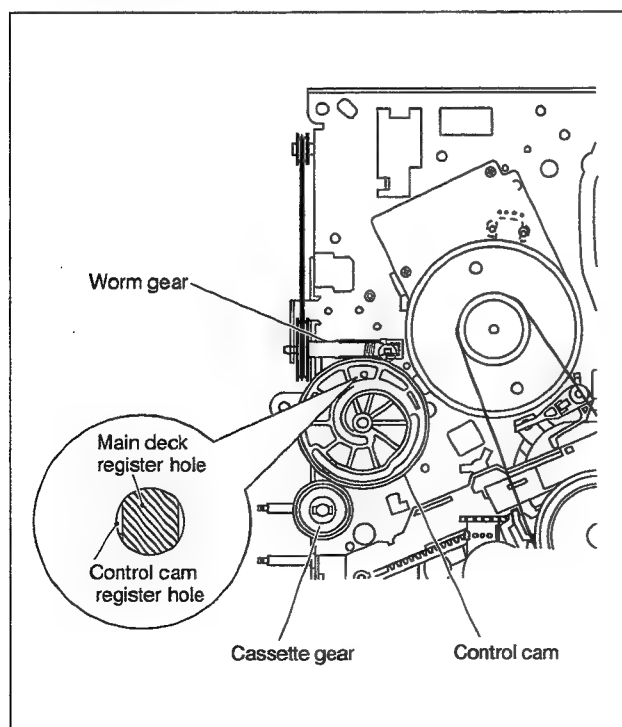

Fig. 2-3-4
- (1) Install the control cam as indicated in Fig.2-3-4 making sure of the front and back side alignment.
- (2) Install the cassette gear by pushing it until it is locked with a clicking sound. (See Fig.2-3-4)